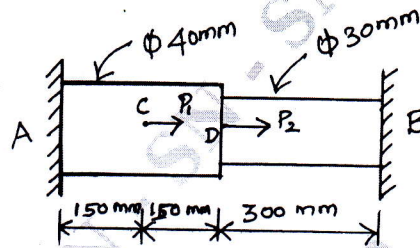

Fig Q1(c)
c. A Stepped bar of steel, held between two supports as shown in Fig Q1(c) is subjected load $P_1 = 80 \text{ kN}$ and $P_2 = 60 \text{ kN}$. Find the reaction developed at the end A and B.